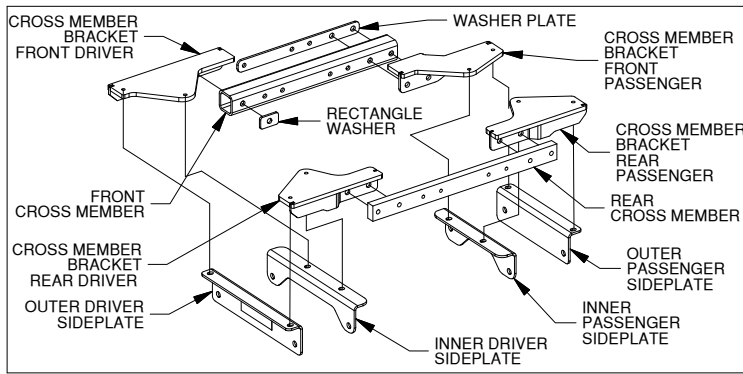
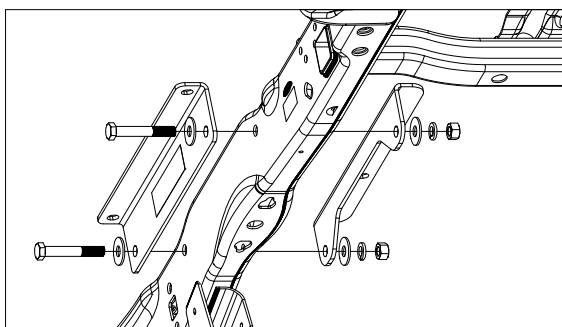
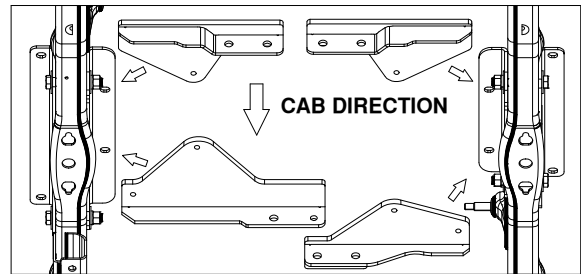
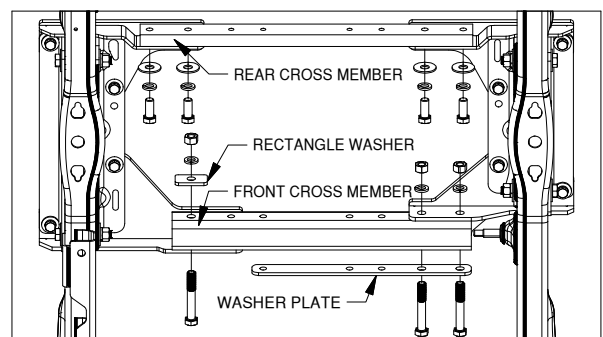

Figure B1: Sideplates and Mounting Kit Exploded View
Figure B2: Driver Side Sideplates
Figure B4: Bottom of truck frame looking up from the back of truck towards the cab
Figure B6: Bottom of truck frame looking up from the back of truck towards the cab
2. **Install Side Plates.** Locate the outer and if needed the inner sideplates, see figure B1. Install the side plates as shown in Figures B2 & B3, so that there is a side plate on the inside and outside of each frame member. Attach the side plates to the frame using 5/8" x 4" bolts, two flat washers, lock washer, and nut, as shown in Figure B2. Fasten hardware until the side plates are flush against frame.
3. **Install Cross Member Brackets.** Locate the four cross member brackets as shown in Figure B1. Attach these brackets to the inner and outer sideplates and to the frame using the 1/2" X 1-1/2" bolts that have the thread locker pre-applied, a flat washer and lock washer as shown in Figures B4 & B5.
4. **Install Front Cross Member.** Locate the front cross member shown in Figure B1. Attach the front cross member, washer plate and two 5/8" X 4" bolts to the passenger side cross member bracket, see Figure B6. Next, attach the cross member to the driver side cross member bracket with 5/8" x 4" bolt, rectangle washer, lock washer and nut, see Figure B6.
5. **Install Rear Cross Member.** Locate the rear cross member shown in Figure B1. Attach the rear cross member to the cross member brackets as shown in Figure B6 with 5/8" x 1-1/2" bolts, flat washers, and nuts.